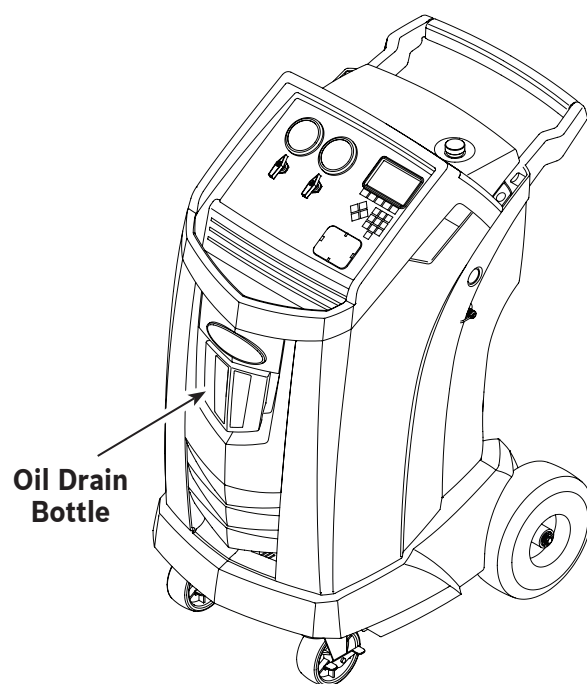

Figure 3
1. Empty the oil drain bottle before starting a recovery. Remove the oil drain bottle from the machine by pulling the bottle straight down—do not use a twisting or rocking motion. Reinstall the oil drain bottle. See Figure 3.